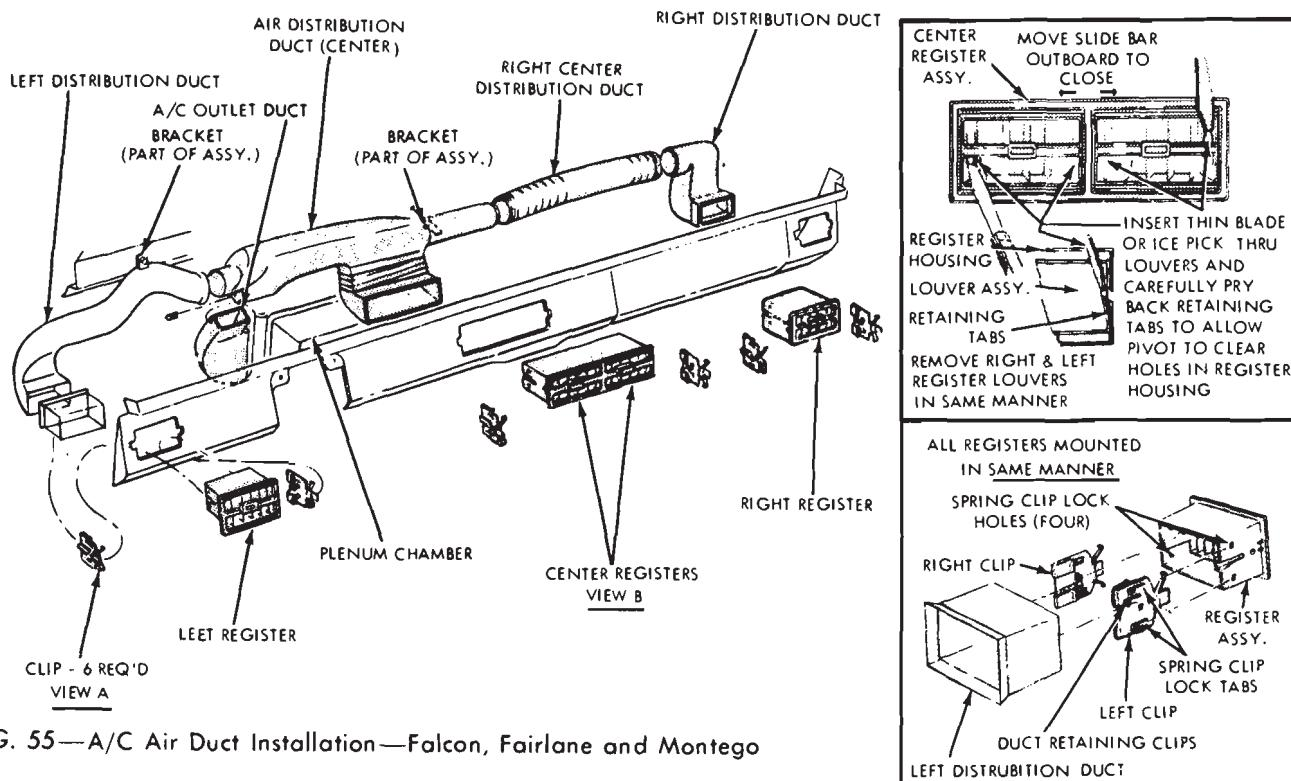

FIG. 55—A/C Air Duct Installation—Falcon, Fairlane and Montego
19. Disconnect the right, left, and center A/C air duct flexible hoses from the center air duct. Remove the right flexible hose from the vehicle (Fig. 55).
20. Remove the stud fastener and disconnect the center air duct from the evaporator housing A/C duct (Fig. 55).
21. Remove one screw attaching the center air duct support bracket to the defroster nozzle and remove the center air duct (Fig. 55).
center duct to the A/C duct (Fig. 55).
4. Install the screw attaching the center air duct support bracket to the defroster nozzle (Fig. 55).